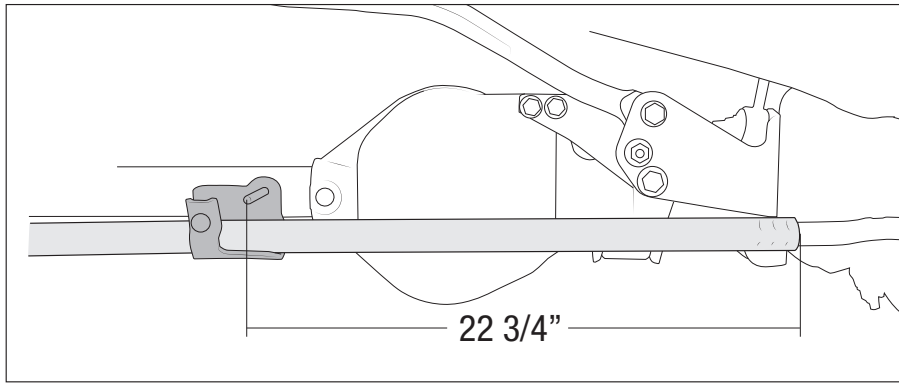

Figure 29
- A. To position the tie rod bracket properly, measure 22 3/4" from the edge of the tie rod tube to the center of the stud as shown. (Fig. 29) Rotate the tie rod bracket until the stud is pointing just forward of straight up. Tighten the mounting bracket at this location. After the mounting bracket is tight, tighten the factory steering stabilizer to bracket nut, torquing to 37 ft-lbs.